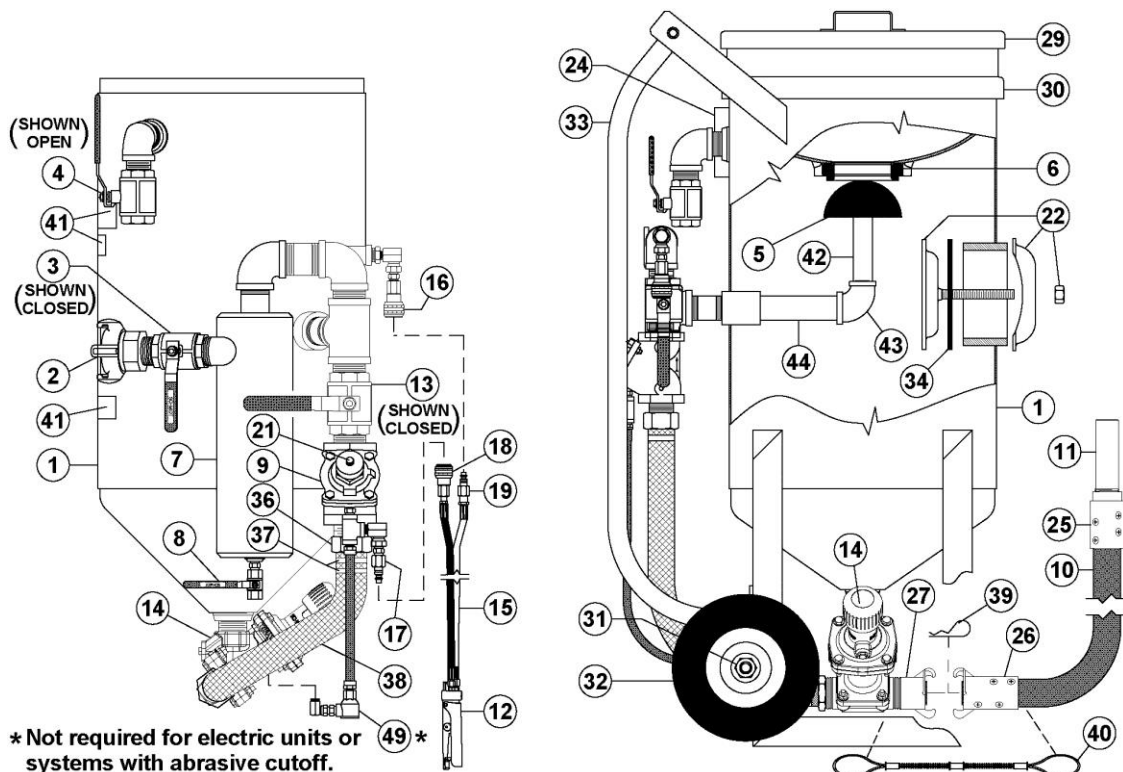

Figure 6.2 – Tera Valve™ Abrasive Blaster with pneumatic blast controls
6.1 Abrasive Blaster Setup Procedure (see Figure 6.2 and 6.3)
- 6.2.1. Close the air inlet ball valve (#3). The ball valve is closed when the handle is fully turned to the position shown in Figure 6.2 (handle perpendicular to body). The handle tab will bottom against the ball valve body in the closed position.